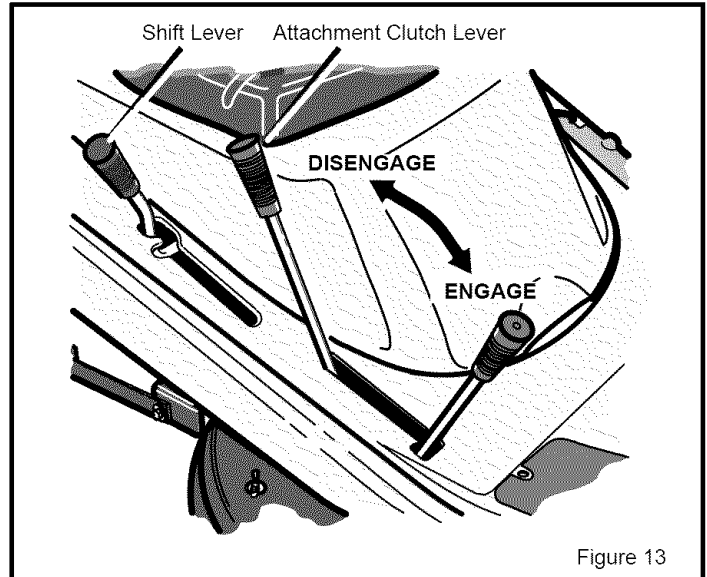
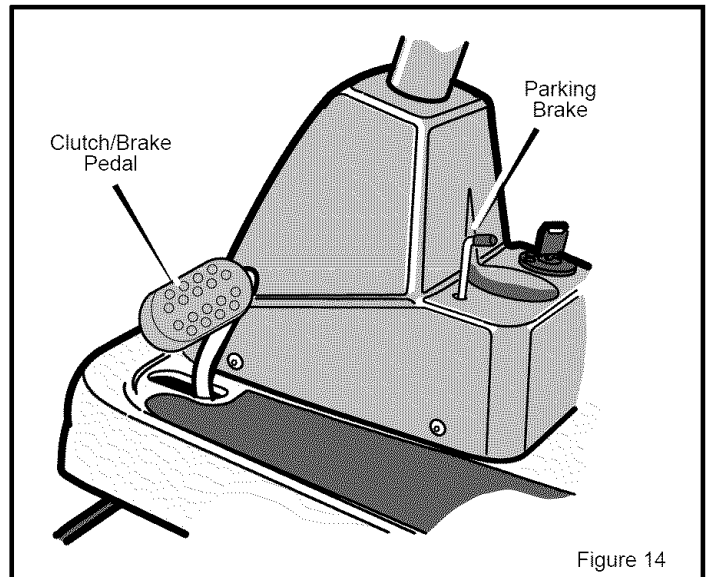

Figure 13
Figure 14
1. Move the **attachment clutch lever** to the **DISENGAGE** position (see Figure 13).
2. Move the **shift lever** to the neutral (N) position.
3. Engage the **parking brake** (see Figure 14).
2. Move the shift lever to the neutral (N) position.
1. Move the attachment clutch lever to the **DISENGAGE** position (see Figure 13).